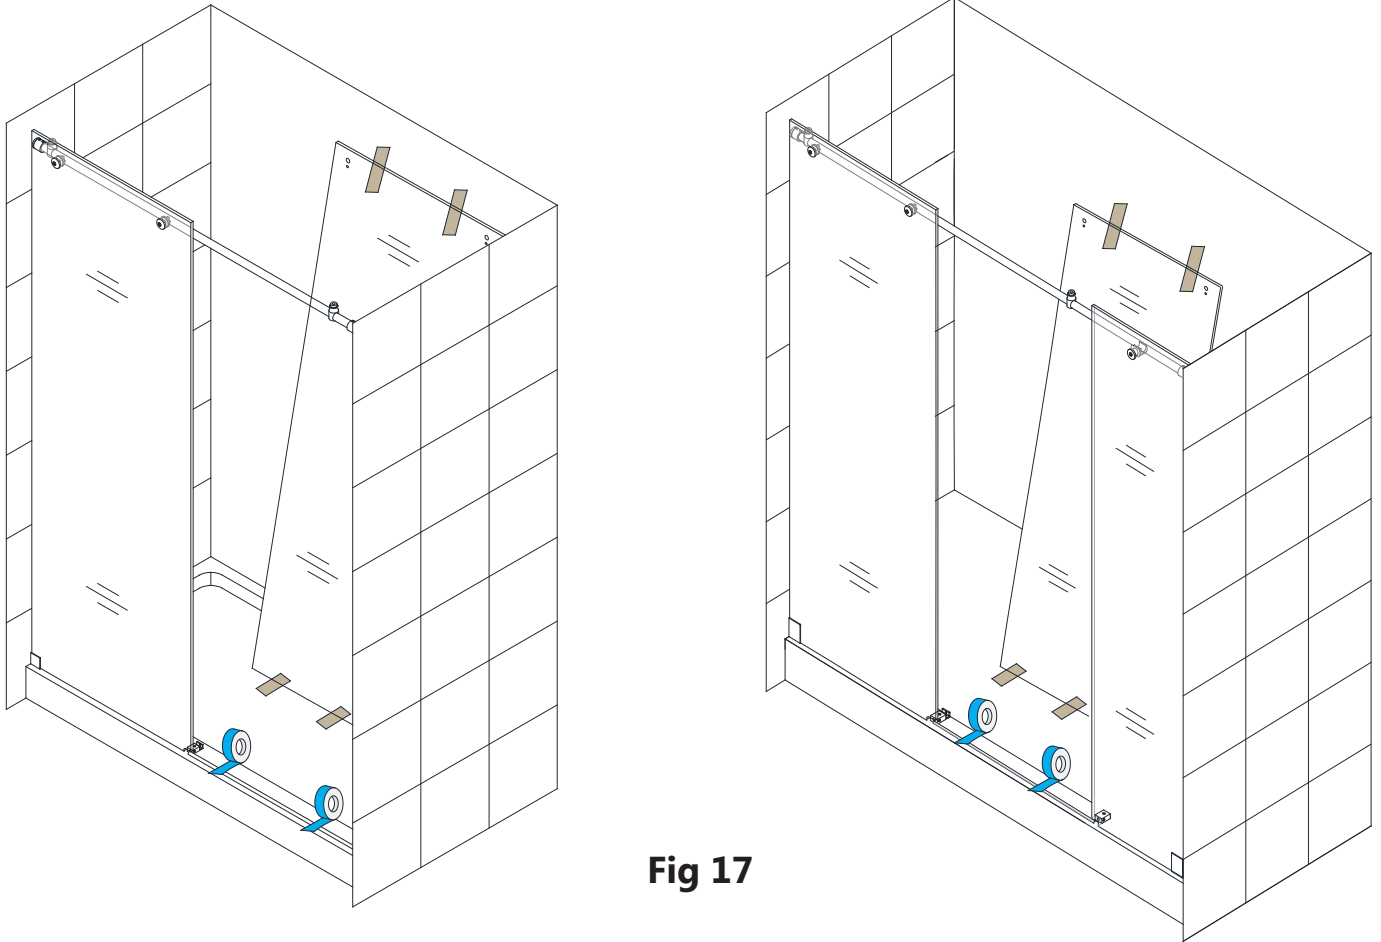

Fig 17
17. Secure the **Anti-Splash Guard (#15)** to the threshold with several pieces of painter's tape to hold it in position and tight to the threshold until the silicone fully cures. **(Fig 17)**